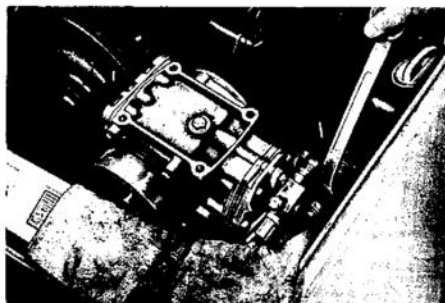

Fig. 11
8. Lift compressor from its guides and pull over to the end plate (refer to Fig. 11). Use rag to protect paintwork.